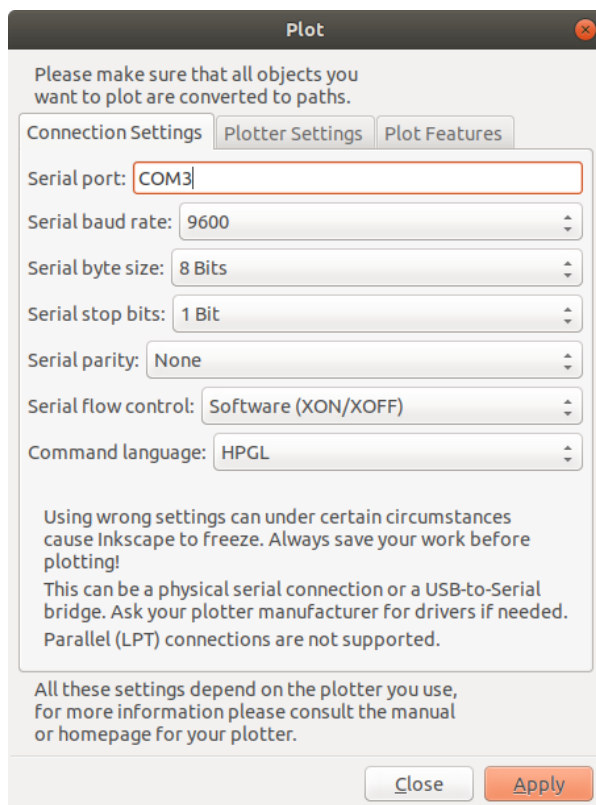

Figure 4.1a: Connection Settings
2. At the *Connection Settings* tab (Figure 4.1a) set the serial port. Leave all the other settings at their default value. You can find the correct port in the Windows Device Manager. For Linux see section 5.1.